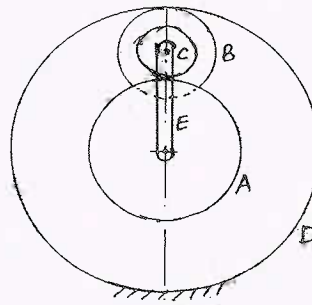

Fig.Q.8(b)
b. In the epicyclic gear train shown in Fig.Q.8(b), the internal gear D is fixed and the sun gear A rotates at 120rpm CCW direction. The number of teeth on gear A, B and C are 60, 40 and 25 respectively. Determine the speed and sense of the arm E. (10 Marks)